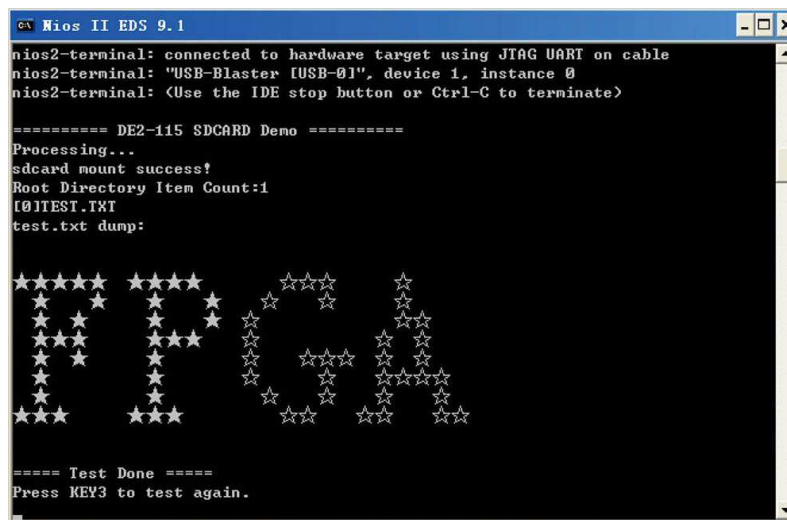

Figure 6-12 Running results of the SD Card demonstration
- The program will display SD Card information, as shown in **Figure 6-12**.